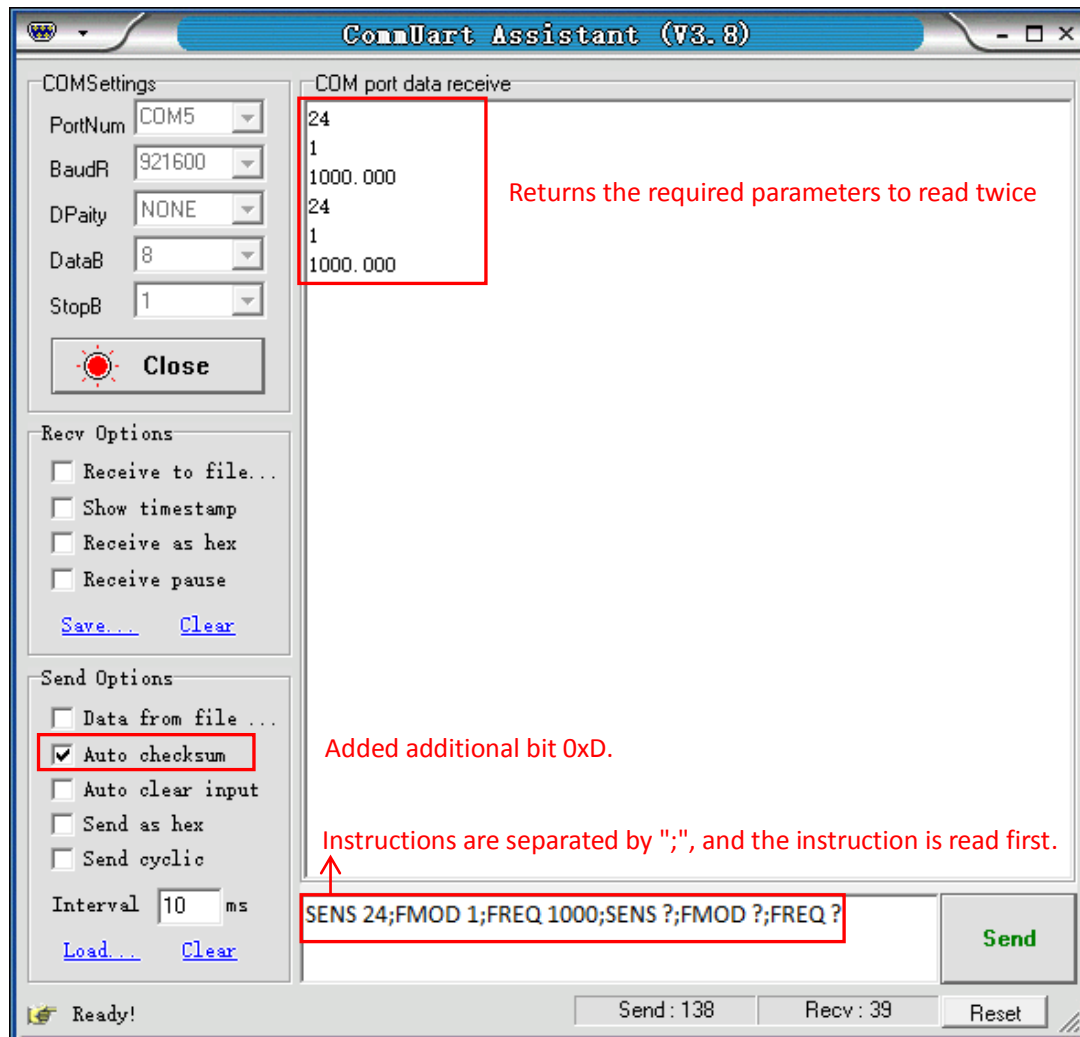

Fig.78 The execution of multiple instructions
3) Multiple commands are separated by “;”, such as “SENS 24;FMOD 1;FREQ 1000;SENS ?;FMOD ?;FREQ ?”, as is shown in Fig.78.